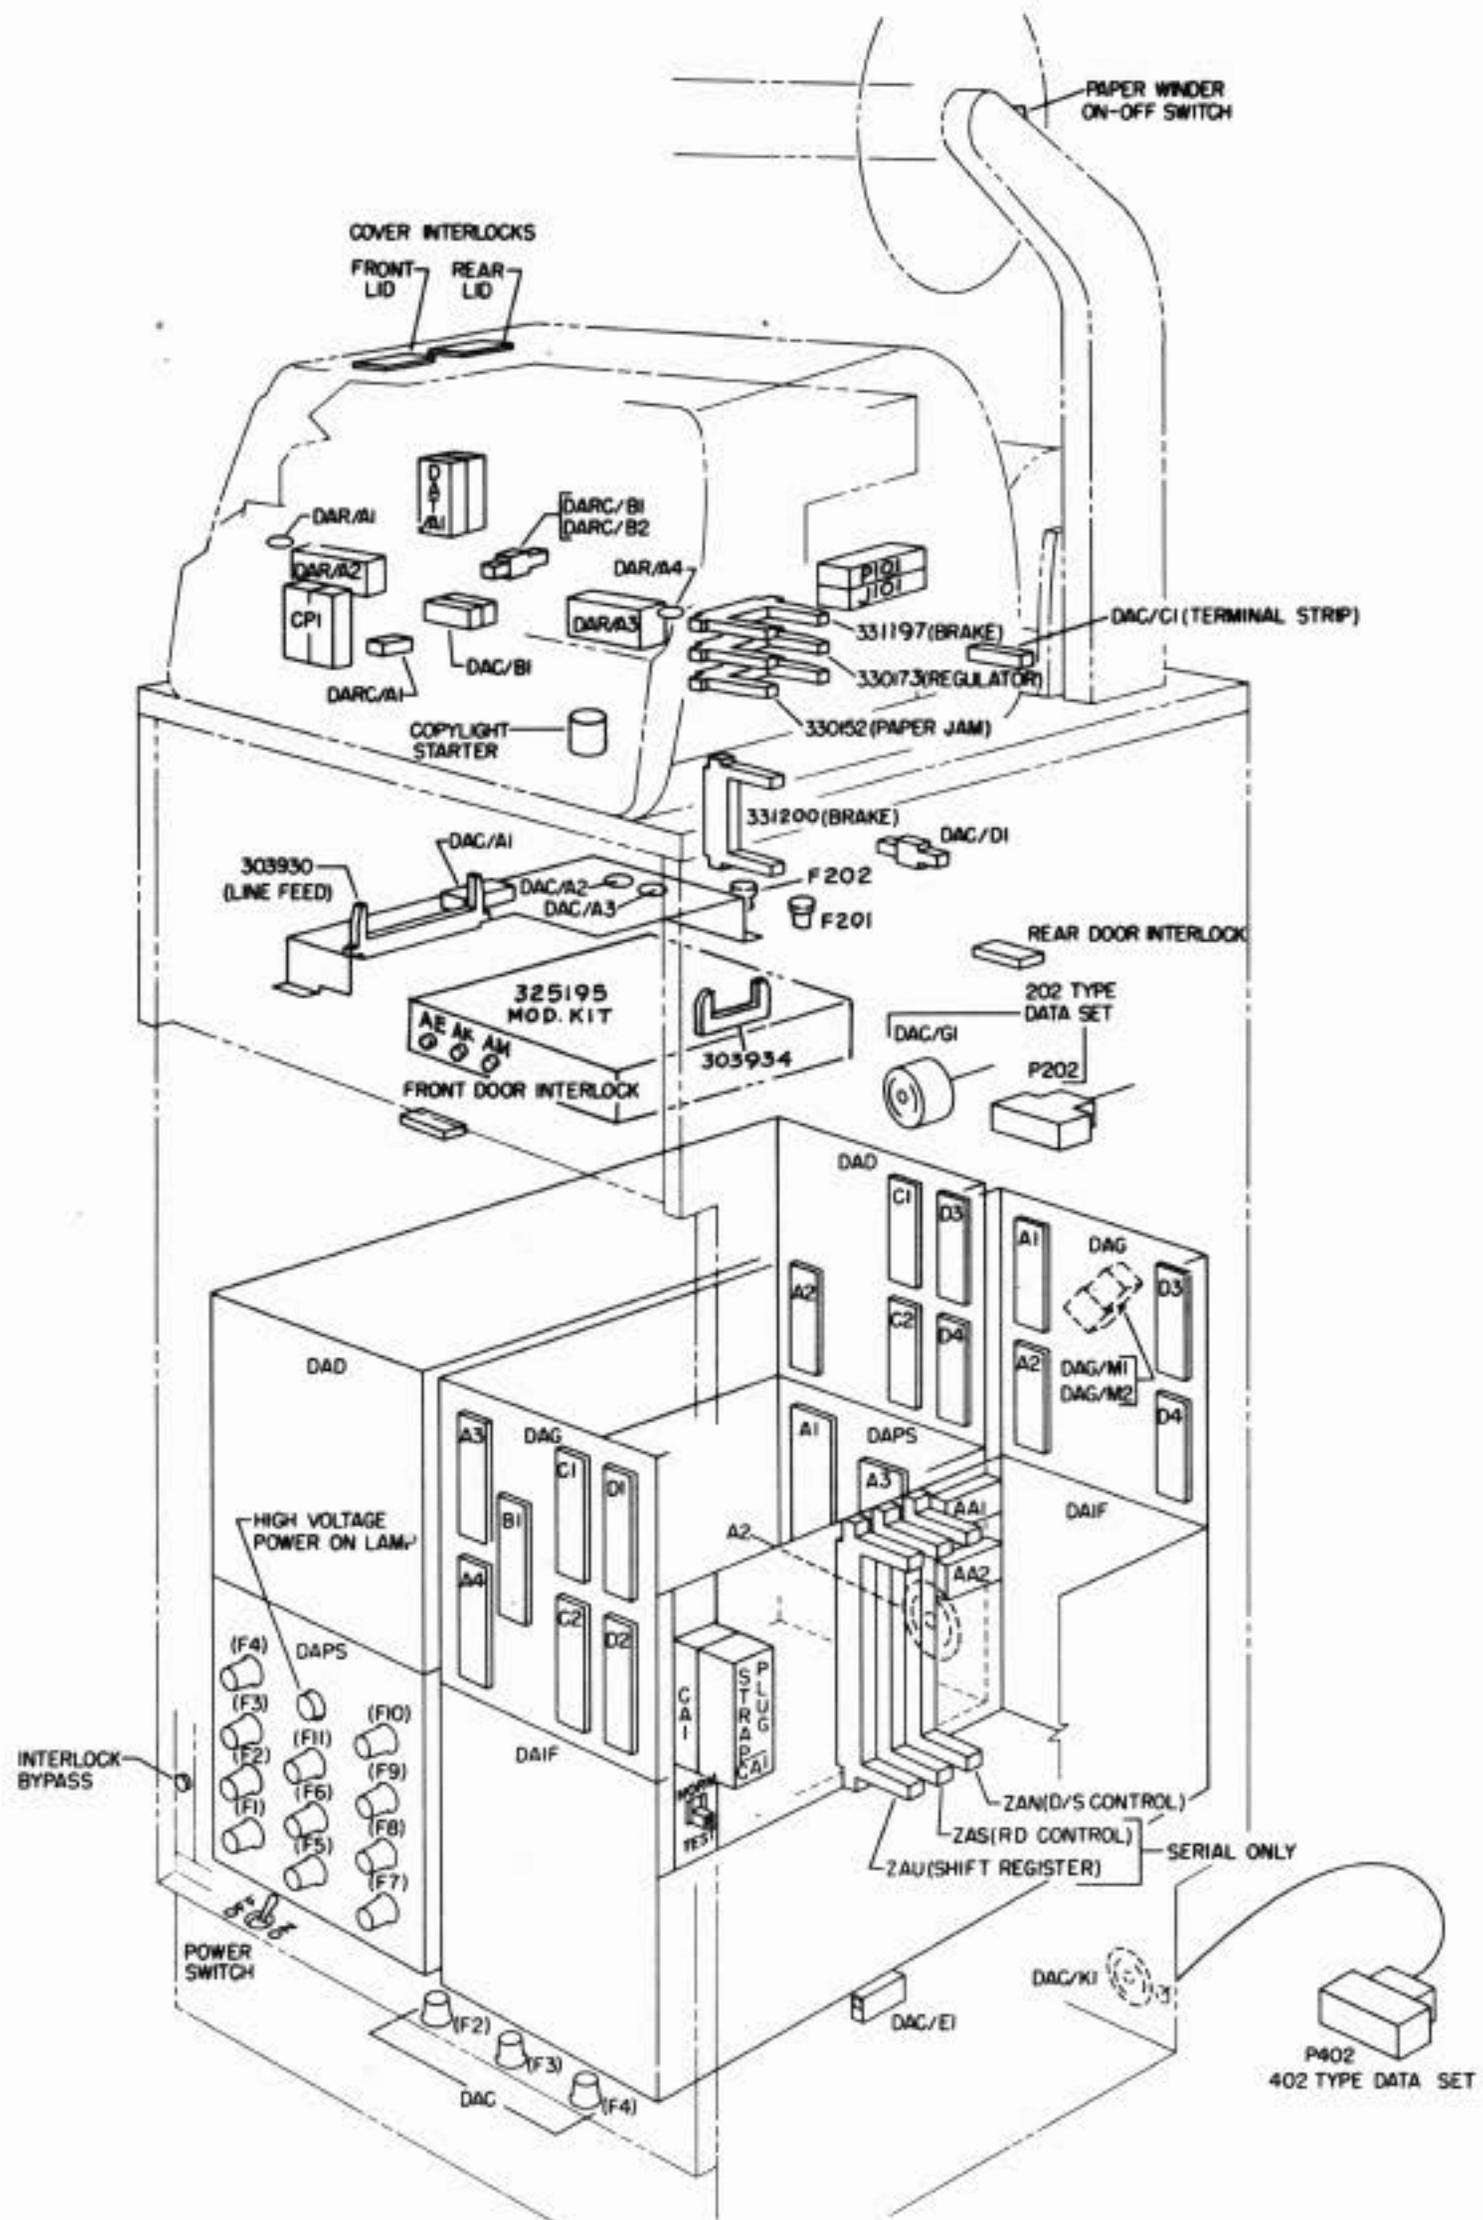
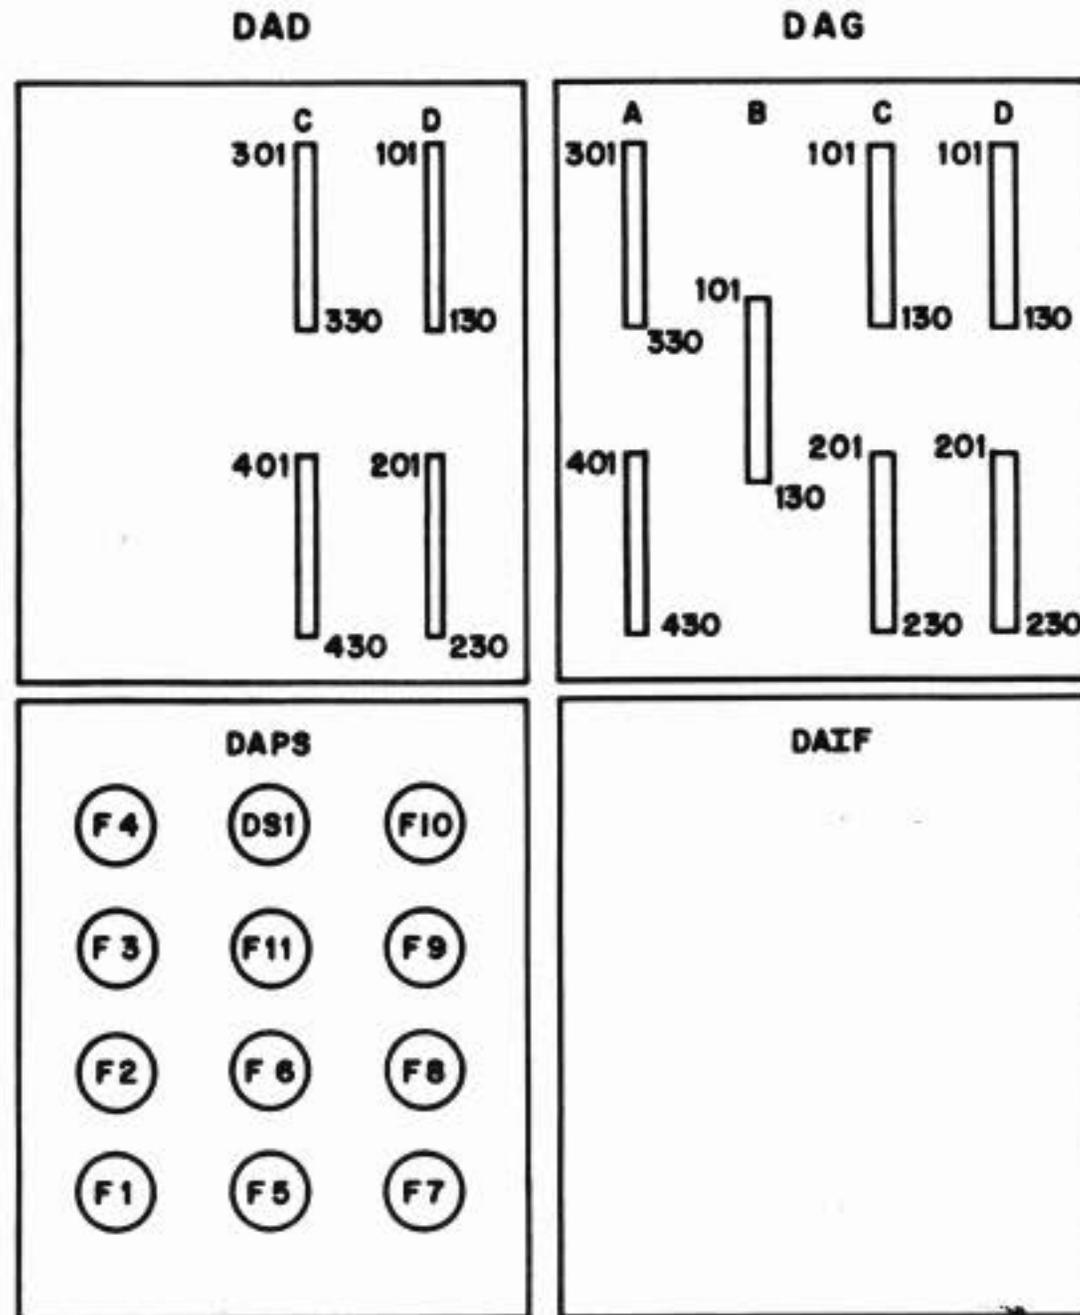

Figure 3 - Positioning of Connectors on INKTRONIC Page Printer (RO)
Figure 4 - Front Connectors for INKTRONIC (RO) Modules
4.04 Figure 3 shows the location of fuses, connectors, switches, etc. designated in the chart, and Table G lists the circuit card locations. Figures 4 through 15 show the test points and connector pins at the front and rear of the DAG and DAD modules. Signals should be checked at these points only, as described in the troubleshooting chart.